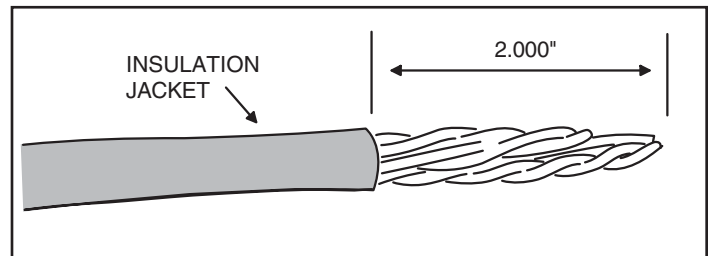

Figure 1. Strip Back the Cable Jacket
STEP 1 Strip back the outer insulation jacket of the Cat-5 cable 2 inches to expose the four color-coded twisted wire pairs inside. See Figure 1.